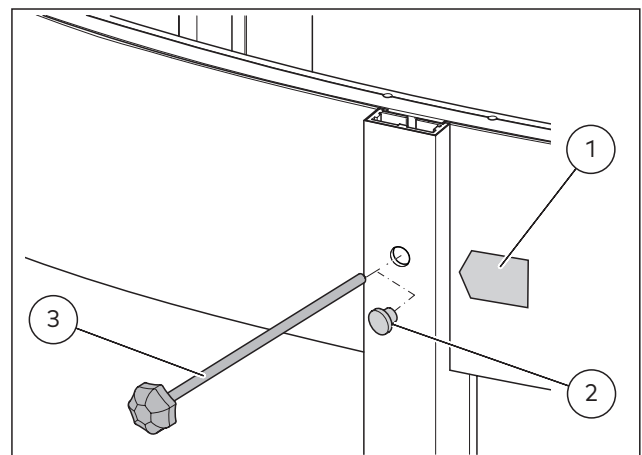

Abb. 7 Locking pin
2. Remove the plug (Abb. 7/2) in the inner left mullion to access the locking pin.
The location of the plug is indicated by a sticker (Abb. 7/1). The sticker also shows instructions on how to unlock the electromechanical locking device.
3. Use the rod (Abb. 7/3) to push the locking pin back into the revolving ceiling.